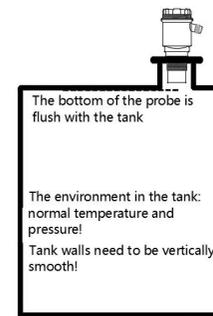
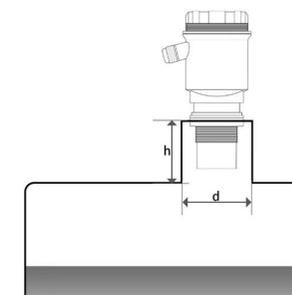
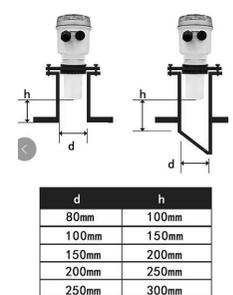

Figure 3
Figure 4
Figure 5
(Figure 3)
- 5) For flange installation on tanks at normal temperature and pressure, the probe surface of the instrument is best exposed in the tank, as shown in Figure 3; if it is not possible in the field environment, the diameter of the pipe fixing the flange is shown in Figure 4 and Figure 5, and the length h is between 100mm-300mm The larger the h value, the larger the corresponding d value.